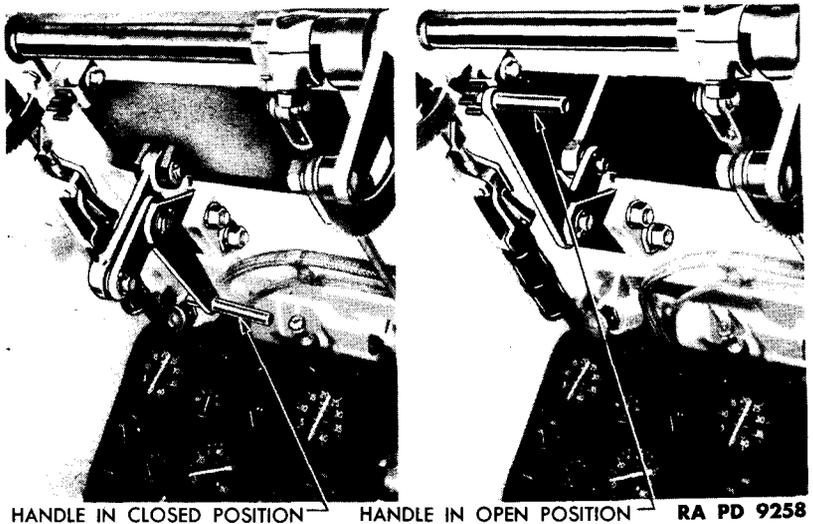

Figure 7 - Driver's Vision Door Controls
h. Vision Doors. The operation of each vision door is identical (fig. 7).